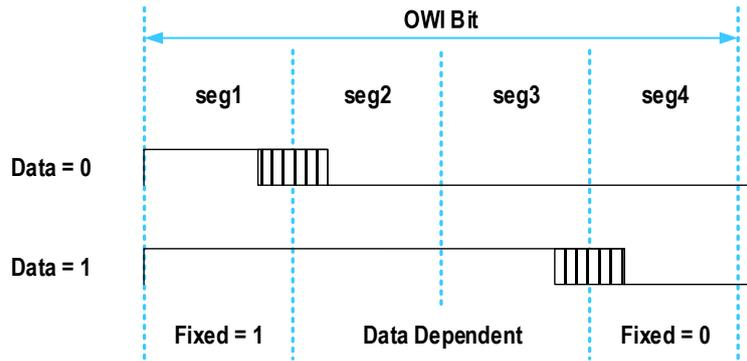

Figure 2. OWI Bit Representation
- Figure 2. OWI Bit Representation4
As no clock is transferred between master and slave, the protocol must be self-synchronizing. This is realized by a pulse-width modulation of the bits. Each bit time is split into four segments (seg1, seg2, seg3, seg4). During the first segment, the OWI signal is unconditionally driven high; during the last segment, it is unconditionally driven low. The two intermediate segments are set to the respective data bit; i.e., for a 0 data bit, they are both driven low and for a 1 data bit, they are both driven high. Therefore, any bit contains a rising and a falling edge. The rising edges are equally spaced and are used by the slave to determine the bit period and consequently as clock regeneration. The falling edges carry the actual data information. Figure 2 shows the encoding of a single 0 or 1 data bit (note: the timing is not to scale).